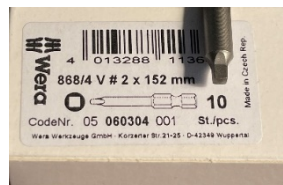

Fig. 6
6. Install screws P/N: TBB 66003099 Fig. 5 using a #2 x 152 square bit tool or similar Fig. 6.